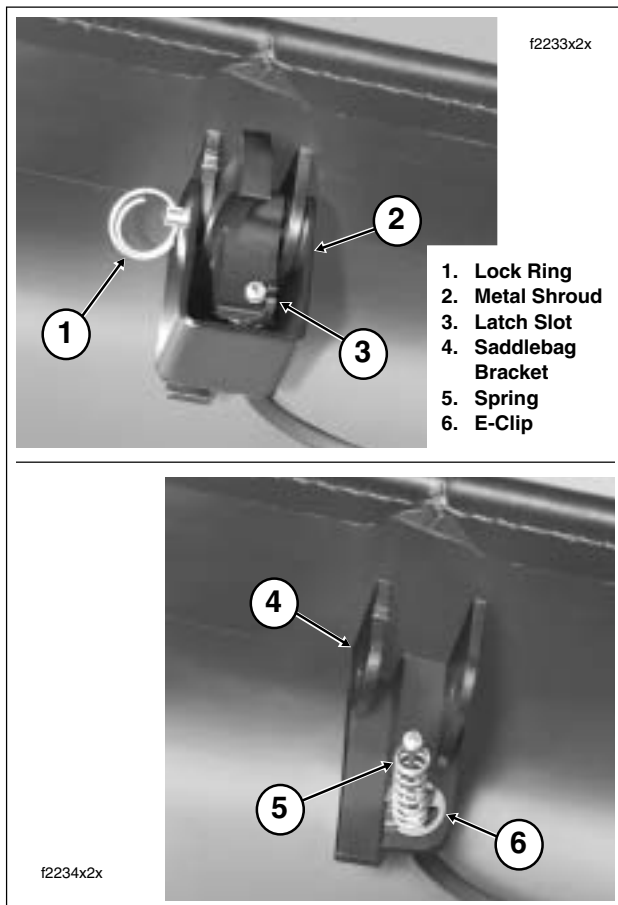

Figure 2-137. Remove Latch Assembly
- Moving to inboard side of saddlebag lid, remove lock ring from hole at end of latch pin. See upper frame of Figure 2-137.
- Remove spring from cable. See lower frame of Figure 2-137.
7. Pull up on cable ball end and install spring on cable. See lower frame of Figure 2-137.
10. Install lock ring into hole at end of latch pin. See upper frame of Figure 2-137.
2. Moving to inboard side of saddlebag lid, remove lock ring from hole at end of latch pin. See upper frame of Figure 2-137.
3. Install lock ring into hole at end of latch pin. See upper frame of Figure 2-137.